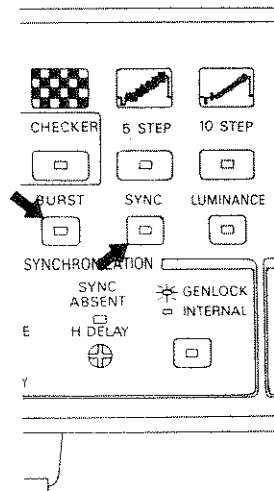

Figure 4.13
4.3 Turning Sync and Burst Signal On/Off (See Figure 4.13)